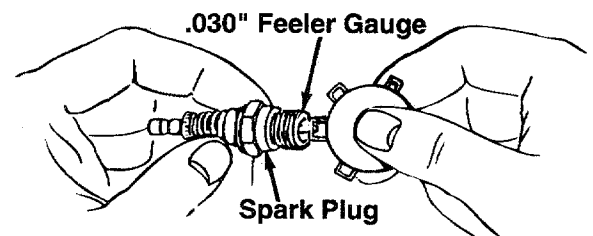

Figure 15
- Clean the spark plug and reset the gap to .030" at least once a season or every 50 hours of operation. See figure 15. Spark plug replacement is recommended at the start of each season. Refer to engine parts list for correct spark plug type.